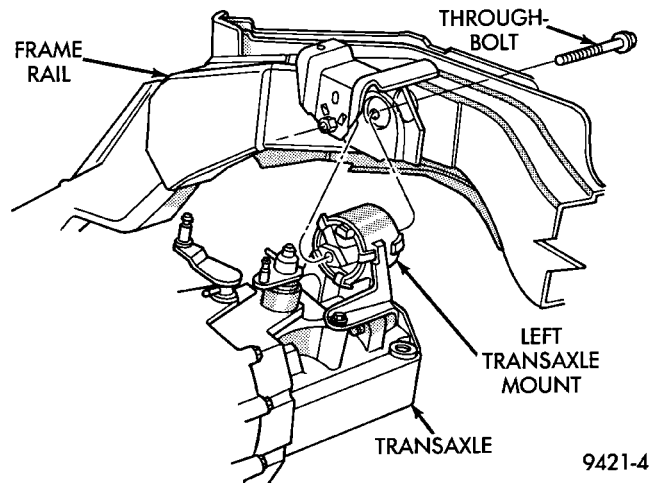

Fig. 29 Left Transaxle Mount Through-Bolt
- (23) Remove four driveplate-to-modular clutch bolts to separate driveplate from clutch assembly.
- (24) Push modular clutch assembly into the transaxle bellhousing for easier transaxle removal.
- (25) Remove frame rail to left transaxle mount through-bolt (Fig. 29).